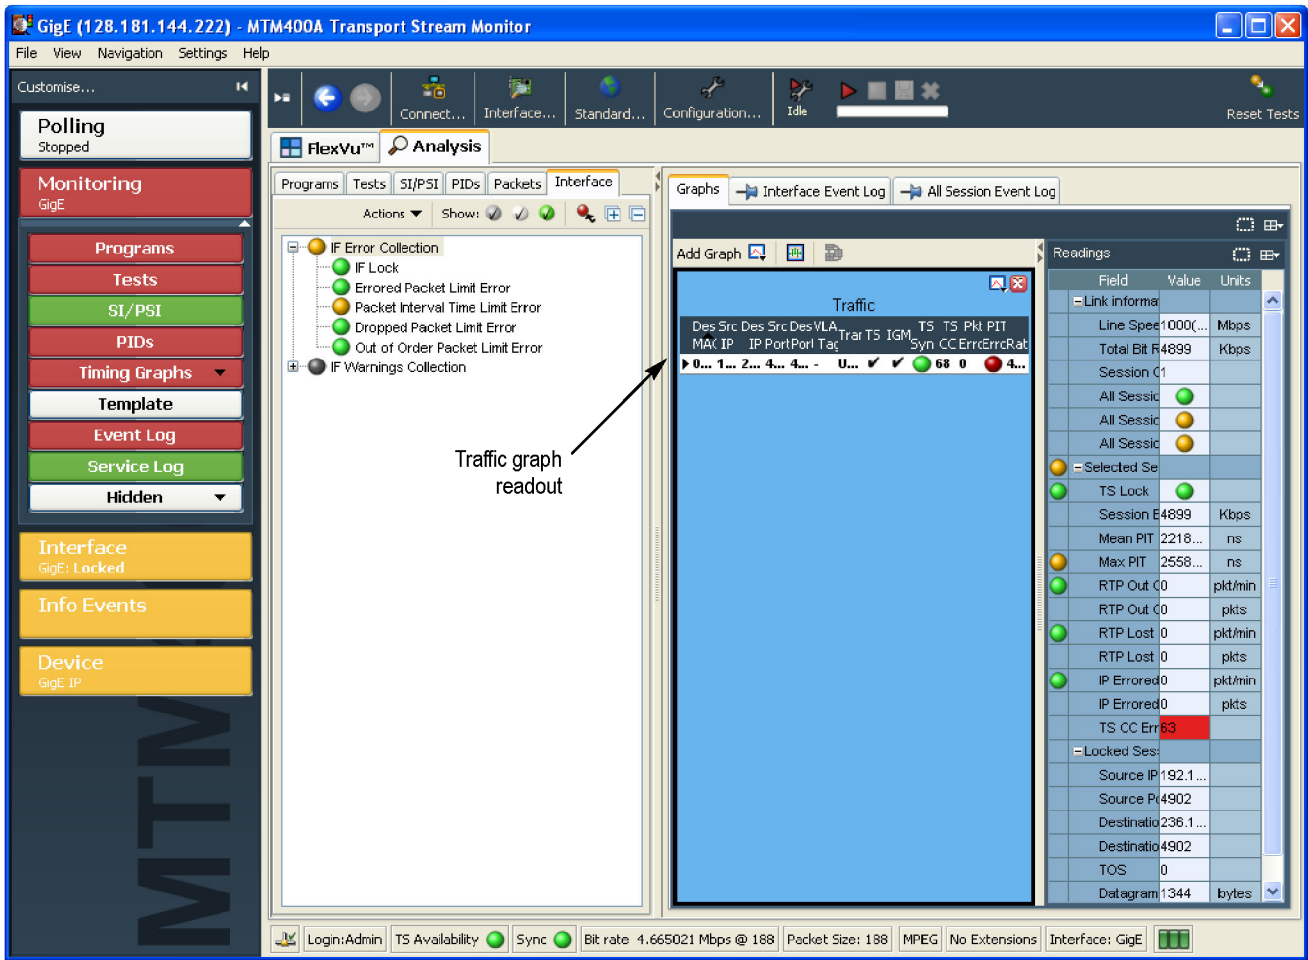

Figure 51: Viewing the Traffic graph
8. Verify that the monitor displays information about the program(s) contained on the transport stream signal in the Traffic graph. (See Figure 51.) The example transport stream in the illustration below contains one program.